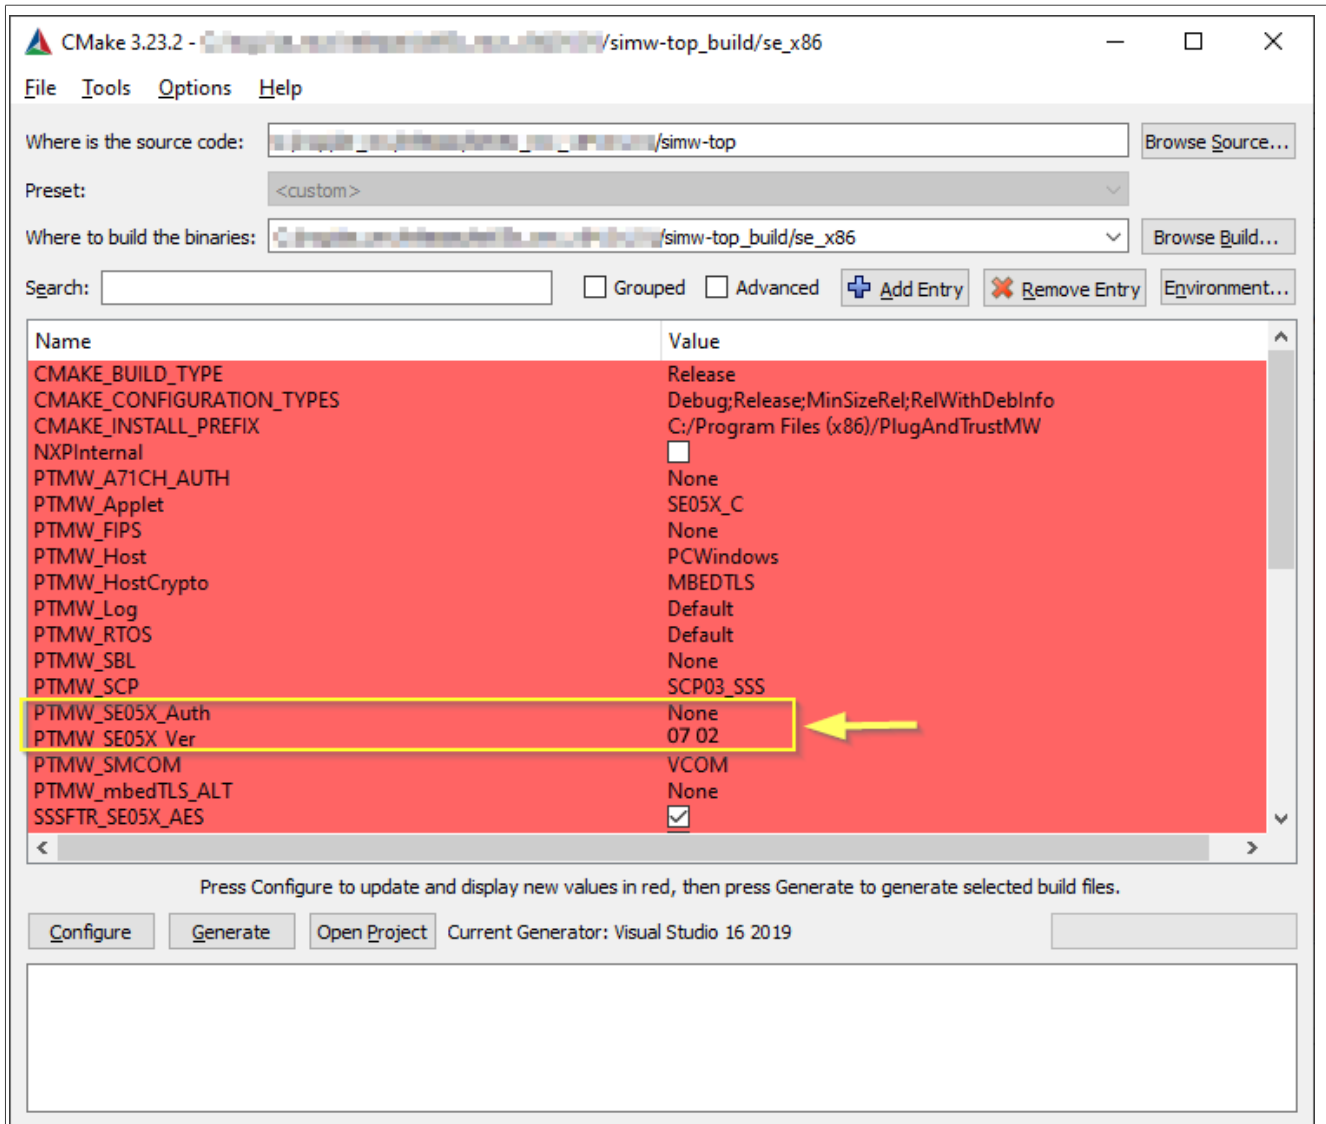

Figure 38. Set CMake flags
- **Other OSs:** the SEMS Lite CLI tool can be compiled for other OSs as well. Please refer to the Quick Start guide for your board and operating system available here. When compiling the tool, make sure that the following CMake compilation flags are set as shown in Figure 38 (`-DPTMW_SE05X_Ver=07_02 -DPTMW_SE05X_Auth=None`). The selected SE05x version needs to be at least 06.00.